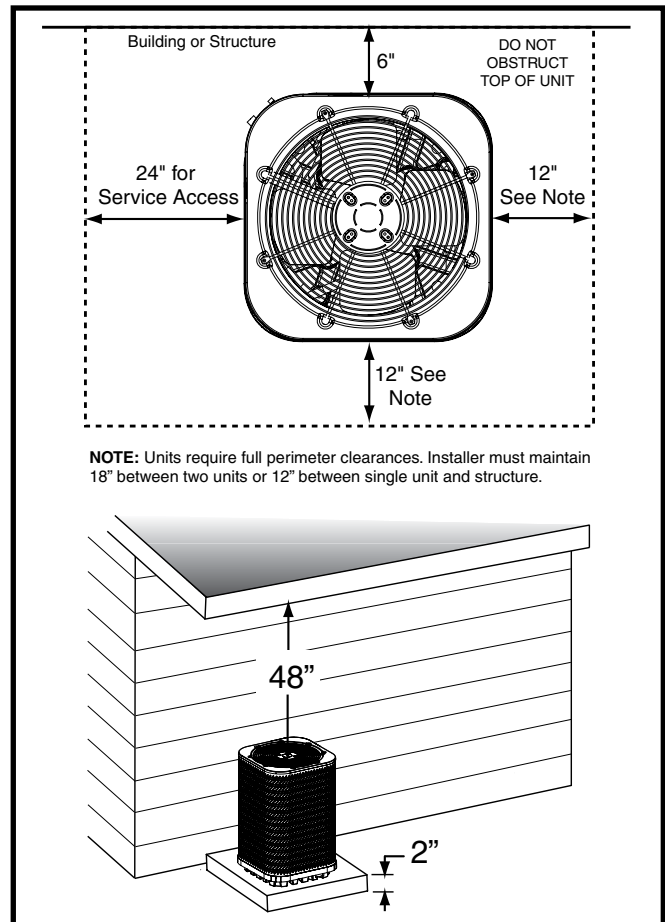

Figure 1. Clearance Requirements
- Overhead obstructions, poorly ventilated areas, and areas subject to accumulation of debris should be avoided. See Figure 1.
- Sufficient clearance for unobstructed airflow through the outdoor coil must be maintained in order to achieve rated performance. See Figure 1 for minimum clearances to obstructions.
- Clearances must be in accordance with those shown in Figure 1.
- A suitable mounting pad must be provided and be separate from the building foundation. The pad needs to be level and strong enough to support the unit's weight. The slab height needs to be a minimum of 2" (5 cm) above grade and with adequate drainage. See Figure 1.